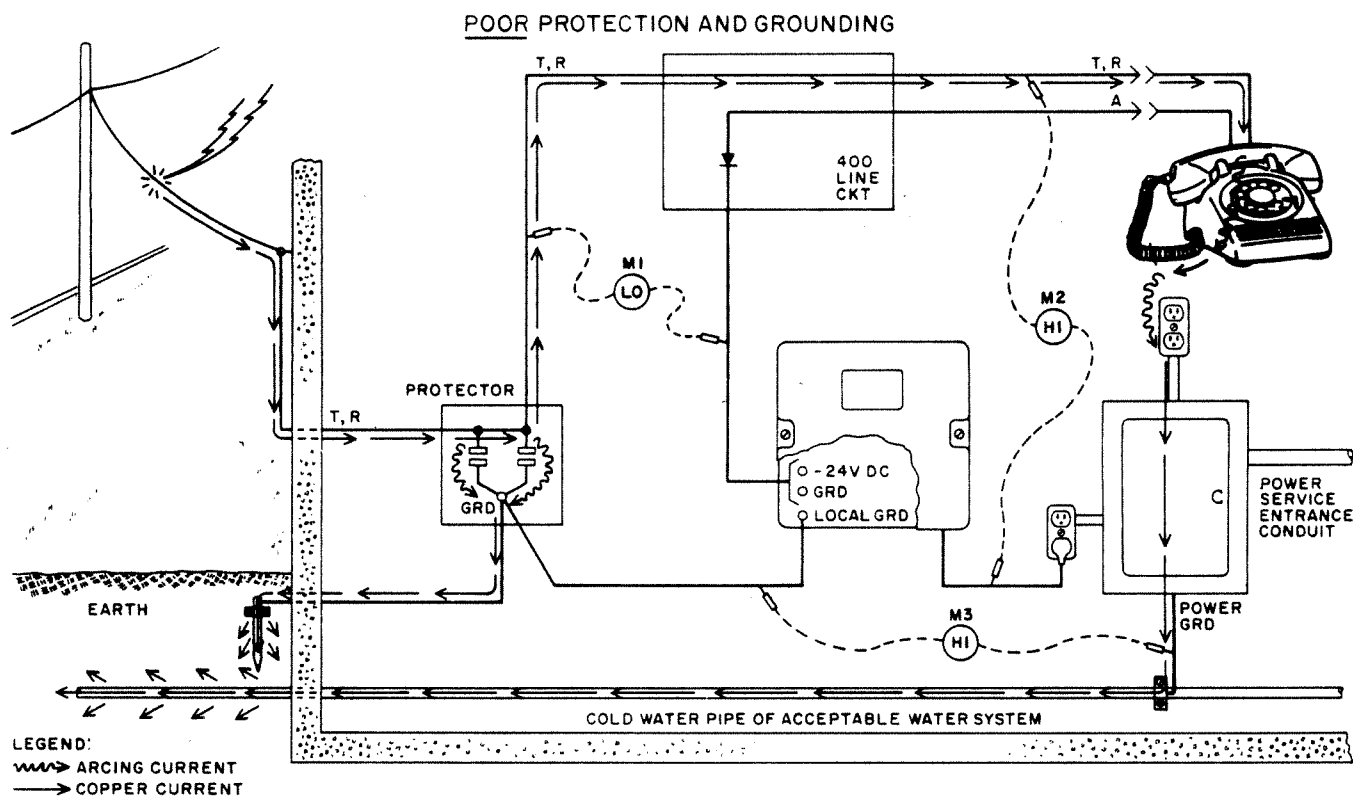

Fig. 8—Protector and KTS Power Supply Grounds Bonded to Ground Rod and AC Power Ground Bonded to Cold Water Pipe
5.06 Protector and Power Supply Grounded to Ground Rod (Fig. 8): The grounding arrangement shown in Fig. 8 eliminates any possibility of arcing between the telephone line and the KTS because both the protector and the power supply are grounded to the same point. Meter M1 indicates that a peak voltage, approximately equal only to the carbon firing point, exists between the telephone line and the KTS equipment. However, a large potential can exist between the KTS and the commercial power system because the latter is connected to a different ground (M2 and M3).